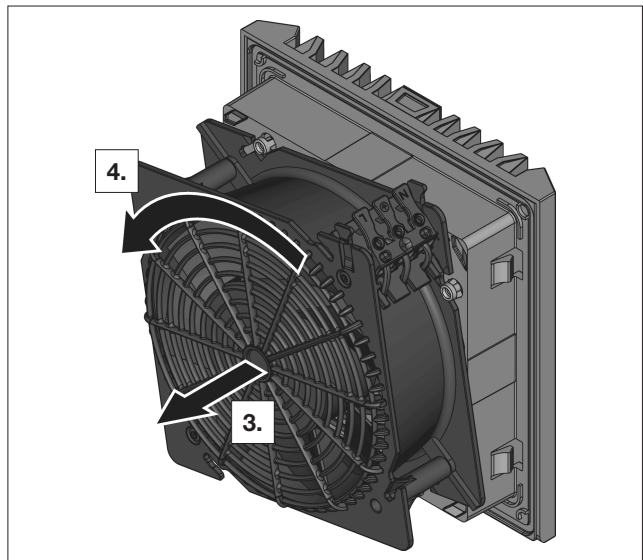

Fig. 8: Turning the fan housing
- Then turn the fan housing by 90°, 180° or 270° so that the electrical connection is in the desired position (see fig. 8).